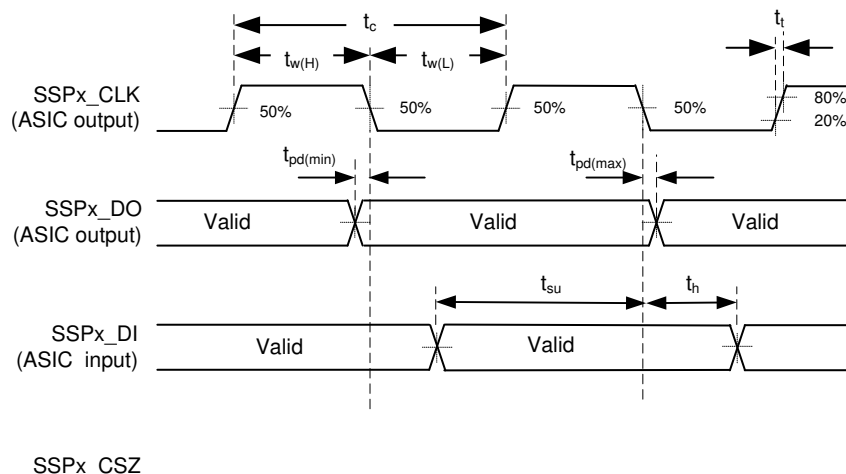
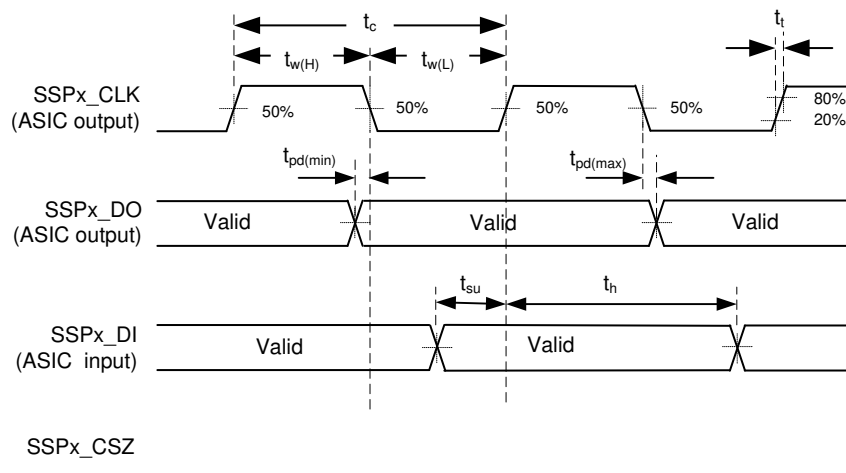

図 5-10. Synchronous Serial Port Interface—Master (Modes 0/3)
図 5-11. Synchronous Serial Port Interface—Slave (Modes 0/3)
- (1) The SSP is configured into four different modes of operation by the controller firmware. These modes are shown in 表 5-2, 図 5-10, and 図 5-11.
(2) SPI Modes 0 and 3
(3) SPI Modes 1 and 2